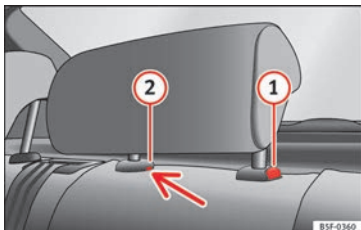

Fig. 151 Rear centre head restraint: release point.
- To set the head restraint lower down, press the ① » » Fig. 151 button and move it downwards.